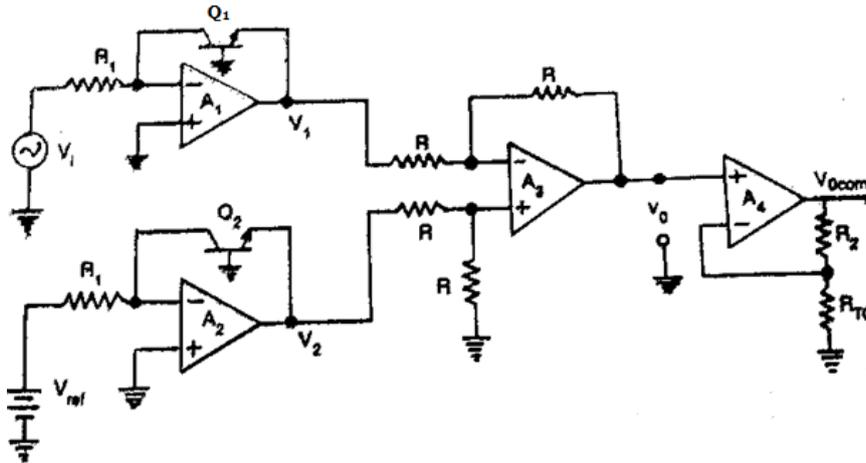

Fig. 3.5 Log-amp with saturation current and temperature compensation
- The circuit in Fig.3.5 requires four op-amps, and becomes expensive if FET op-amps are used for precision.